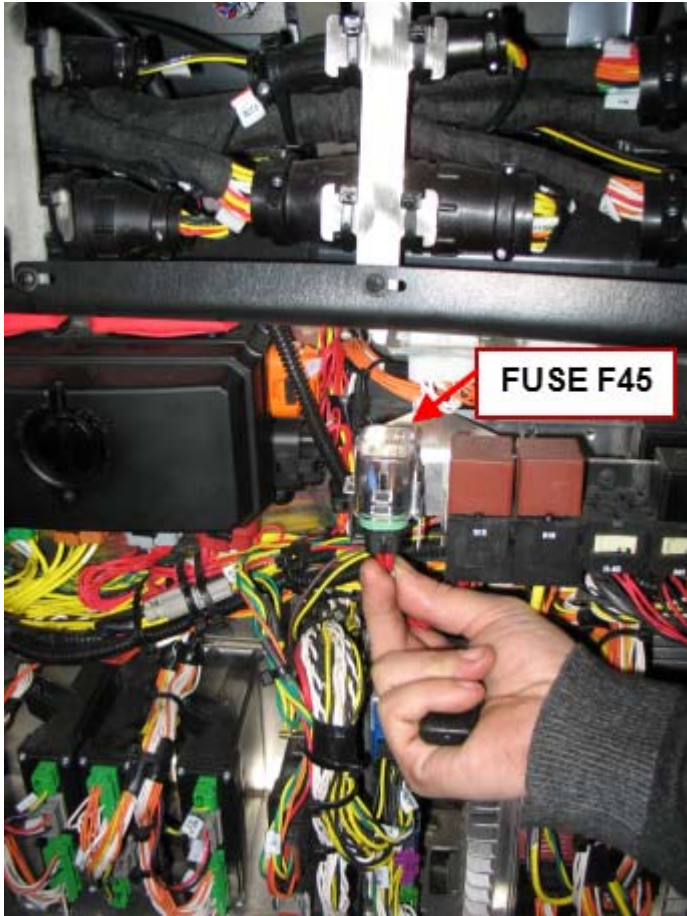

FIGURE 3: FUSE F45 INSIDE FRONT ELECTRICAL COMPARTMENT
- 4) Inside the front electrical compartment, pull fuse F45 to cut electrical supply to the AFSS protection panel (see FIGURE 3).